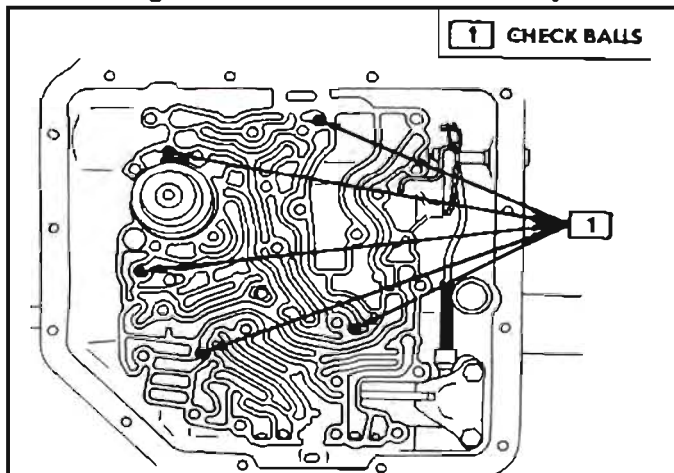

Figure 108 Check Ball Location
3. Install 5 check balls into correct transmission case pockets. See Figure 108. If number one (1) check ball is omitted or incorrectly placed, transmission failure will result due to minimum line pressure.